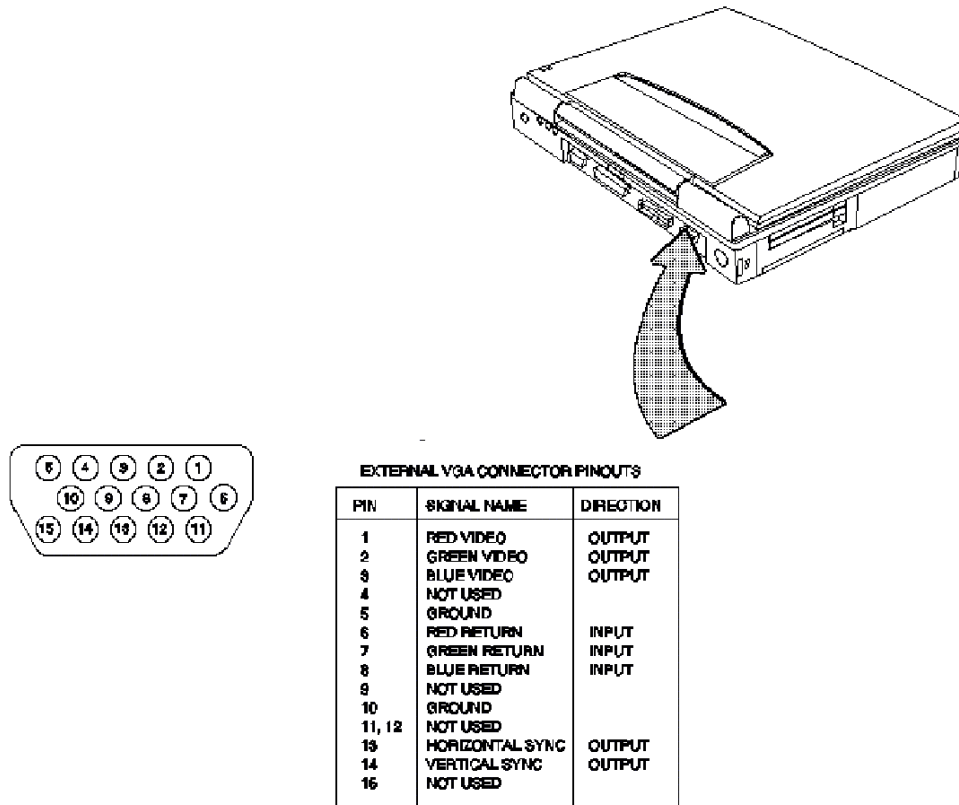

Figure 2-6 External VGA Pinouts
The notebook contains an external CRT port that can drive one of a variety of monitor resolutions and colors as summarized in Table 1-9. The associated connector location and pinouts are shown in Figure 2-6.
2. Connect the 15-pin external VGA cable from the monitor to the VGA connector on the notebook computer (refer to Figure 2-6).